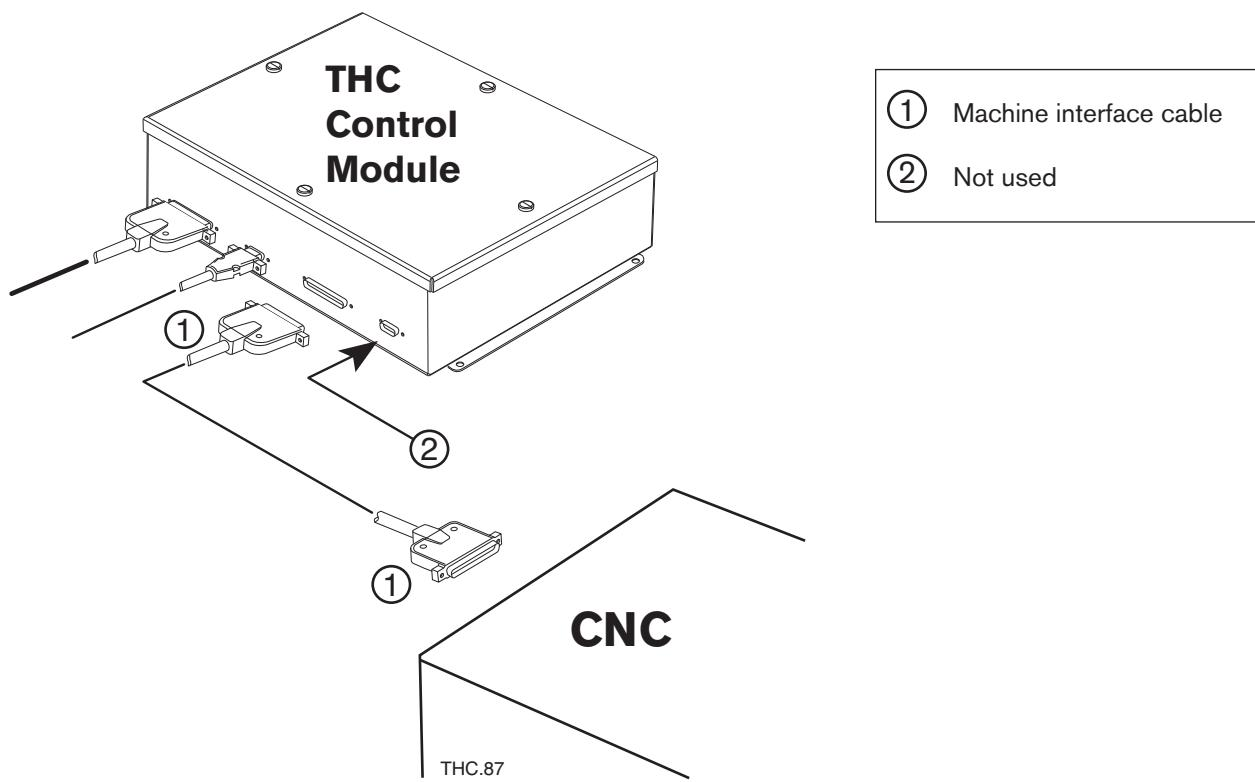

Figure 3-11 Machine interface cable
3. Install the machine interface cable as shown in Figure 3-11.